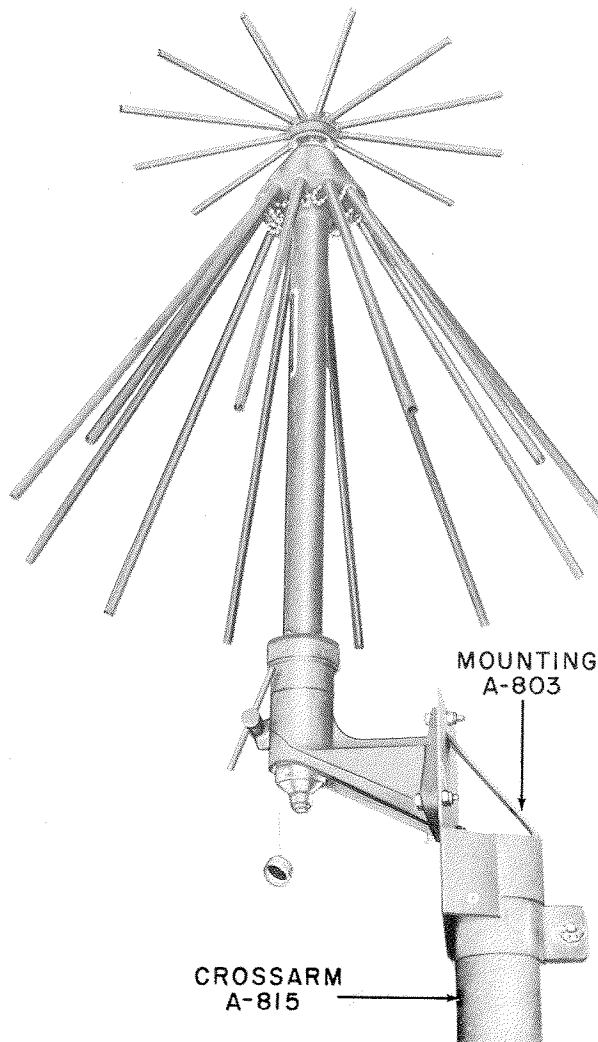

Figure 3-10. Antenna AT-197/GR
- Slide the base of the antenna through the antenna support and tighten the support handscrew. Figure 3-10 shows a properly assembled antenna mounted vertically on the crossarm.